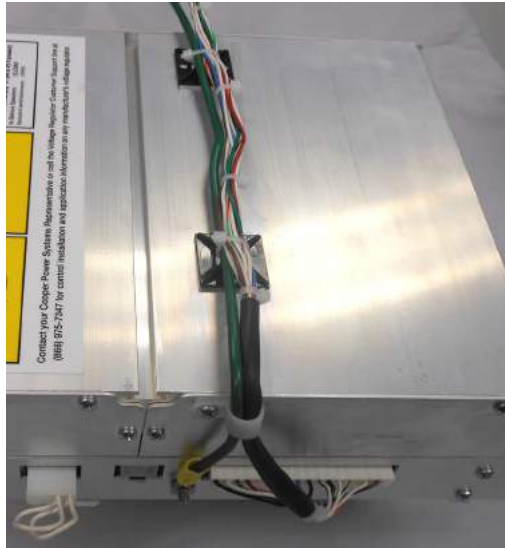

Figure 22. Installing ground wire and harness cable ties
12. Install the adhesive cable tie anchors (Item 10) as shown in **Figure 22** and secure the wiring harness and ground wire using the provided cable ties (Item 11). Trim back the cable ties as necessary.